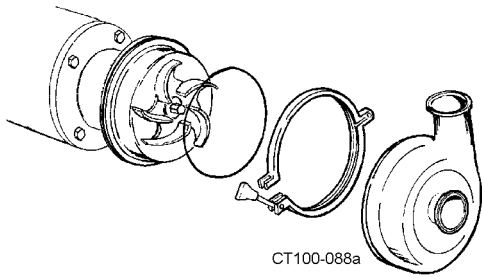

Figure 45 - Install Casing
28. Install the casing o-ring on the backplate and clamp the casing in place (Figure 45).